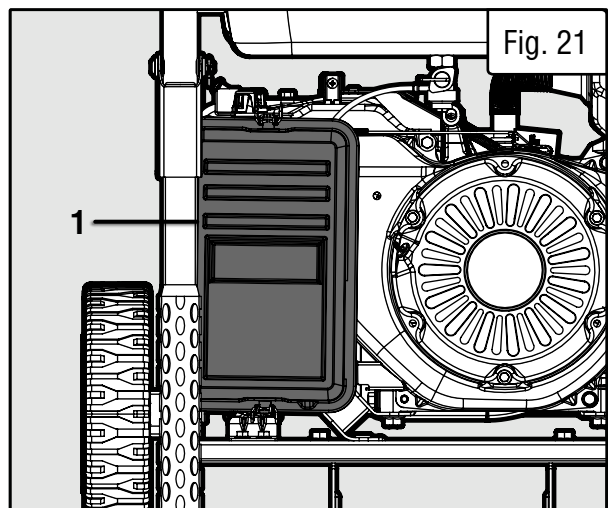

Fig. 21
1. Remove the air filter cover by loosening the clasps at the top and bottom of the air filter cover (Fig. 21 - 1).